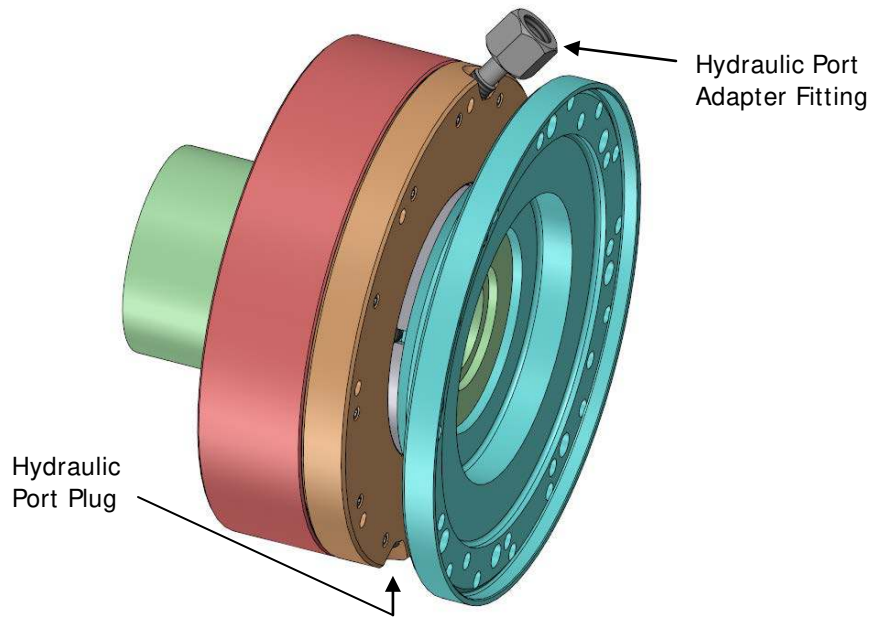

Figure 5 – Port Fittings
3.4.4 Thread the Hydraulic Port Adapter fitting (Riverhawk PN 2001177) into one of the hydraulic ports on the HTC as shown in Figure 5. The fitting can be used in either port.